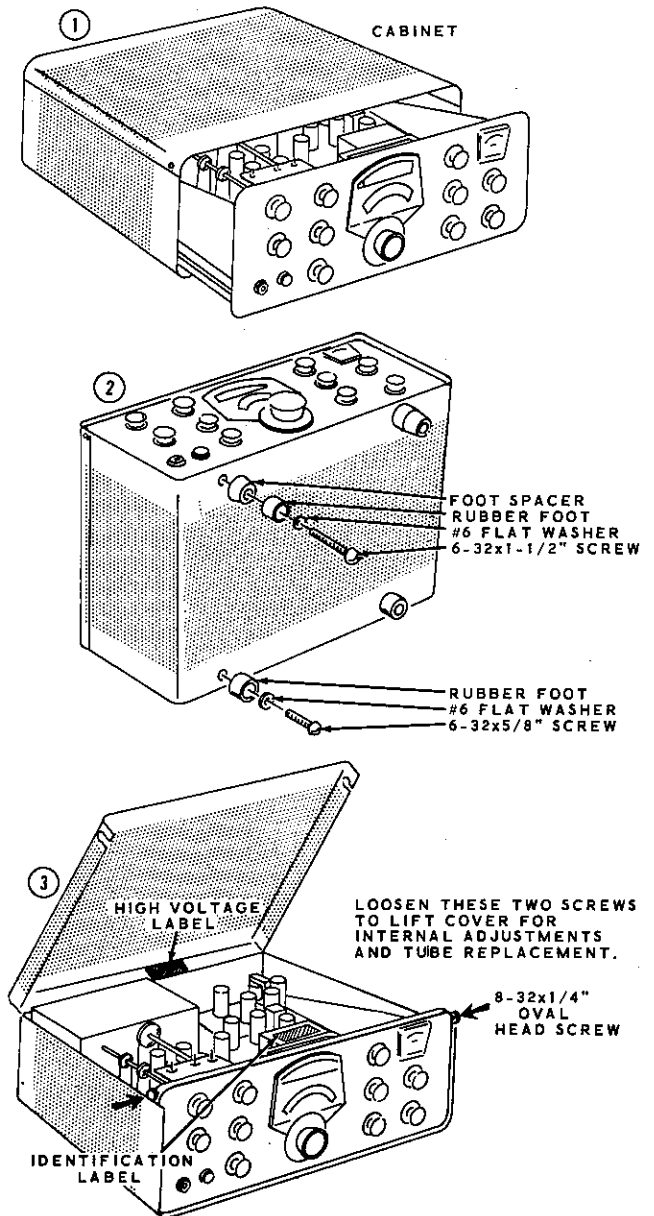

Figure 1-6
Refer to Figure 1-6 for the following steps.
1. Select a location for the label where it can easily be seen when needed, but will not show when the unit is in operation. This location might be on the LMO chassis. See Figure 1-6.